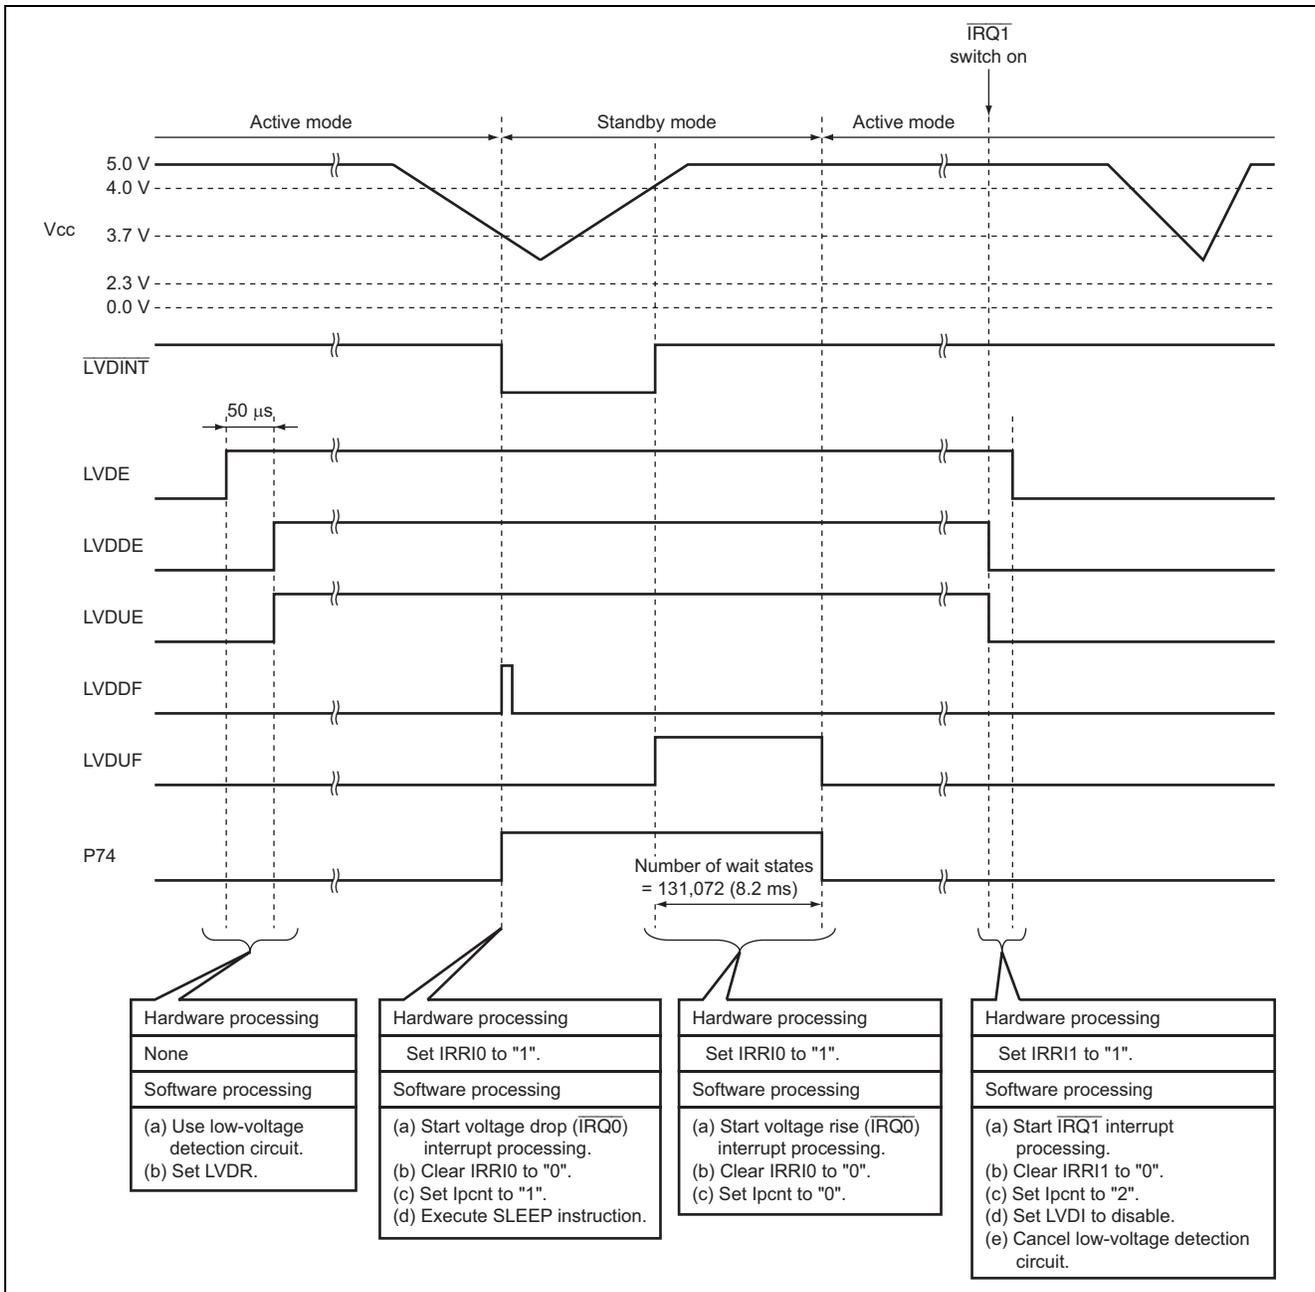

Figure 3.1 Description of operation (1)
- Figure 3.1 shows the procedure for setting and canceling LVDI, and transitions to standby mode triggered by low-voltage detection interrupts.